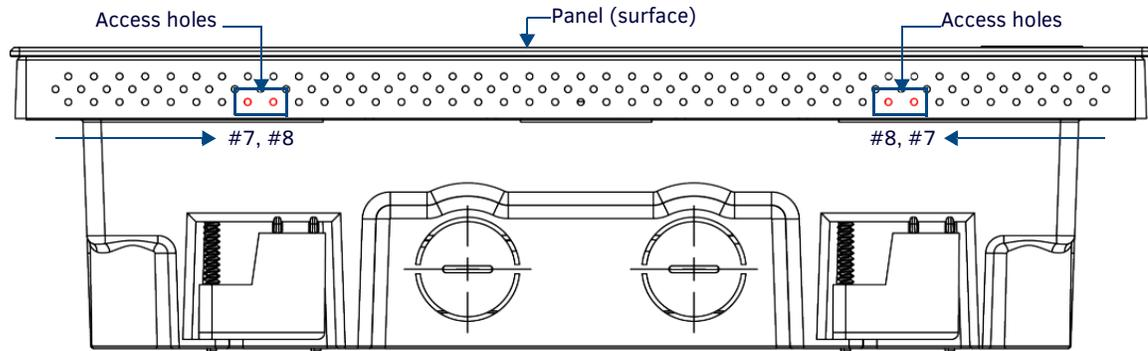

FIG. 49 Bottom View (Landscape) or Right-Side View (Portrait) of the MXD-1000 showing access holes in molding
2. On the bottom (Landscape) or right side (Portrait) of the MXD-1000, locate the **seventh and eighth** ventilation holes from each edge, on the row closest to the Backbox (FIG. 49):.
2. On the bottom (Landscape) or right side (Portrait) of the MXD-700, locate the **fifth** ventilation holes from each edge, on the row closest to the Backbox (FIG. 49):.